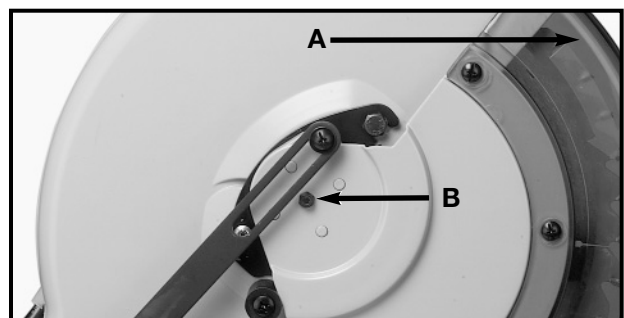

Fig. 30
After an extended period of use the movable lower blade guard (A) Fig. 30, may not operate smoothly when the cuttinghead is lowered. This can be corrected by adjusting nut (B) until the lower blade guard (A) moves freely.